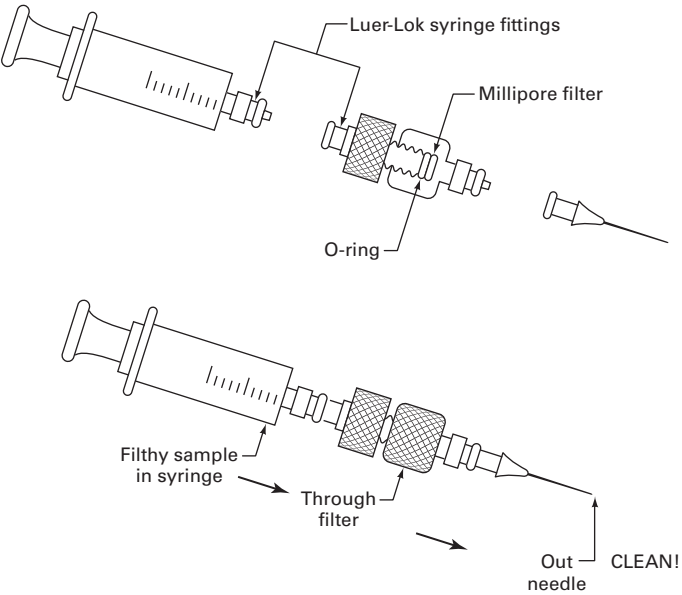

FIGURE 31.4 The Swinney adapter and syringe parts. (Note Luer-Lok.)
1. **The Swinney adapter** (Fig. 31.4). This handy unit locks onto a syringe *already* filled with your sample. Then you push the sample *slowly* through a Millipore filter to trap insoluble particles. This does *not*, however, get rid of **soluble tars** that can ruin the column. (Oh: Don't confuse the Millipore filters with the papers that separate them. It's embarrassing.)